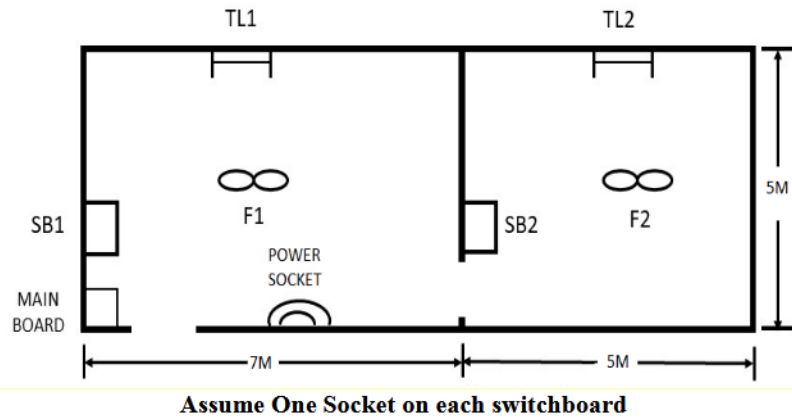

Fig.No.1
- 13) Draw wiring diagram for the residential load shown in Fig. No. 1